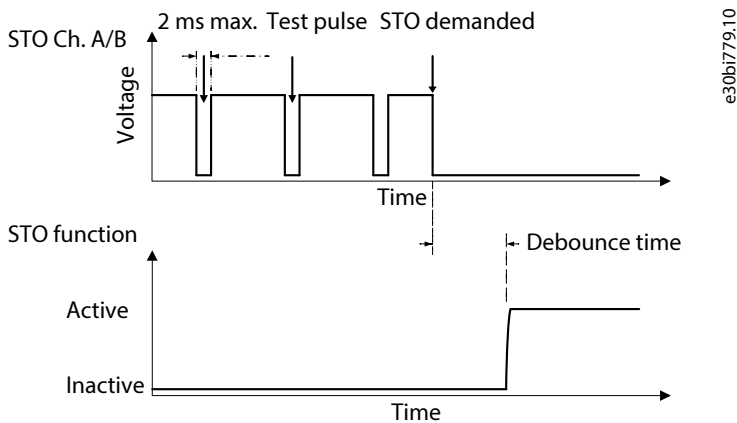
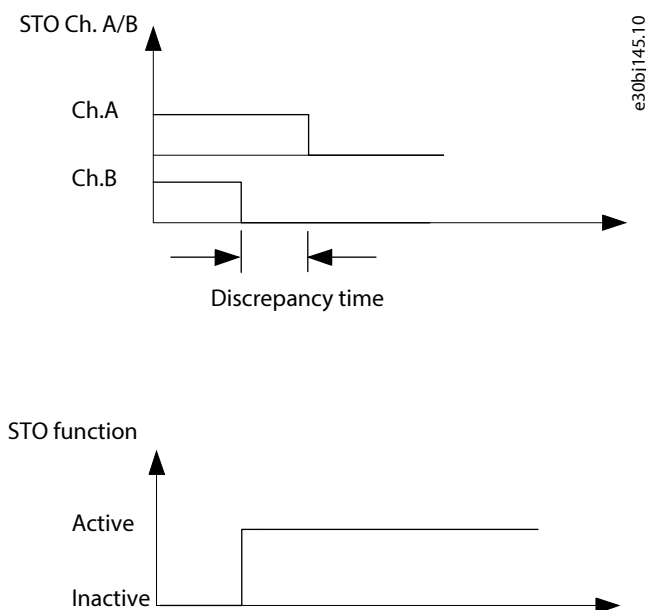

Figure 1: Test Pulse Filtering
Figure 2: Discrepancy Time
- Galvanic isolation of terminals:** The functional safety I/O terminal blocks on the control board (X31, X32) have separate, galvanically isolated inputs to allow, for example, interchanging of the polarities of the STO input terminals as shown in Figure 1 and Figure 2.